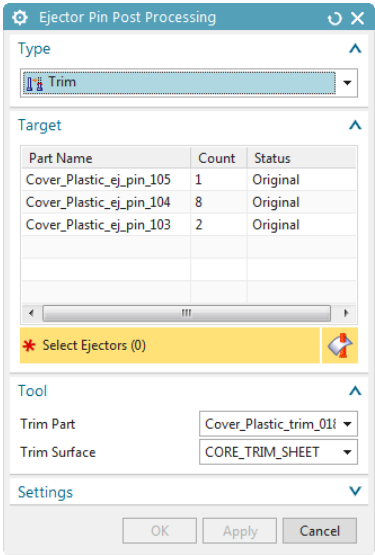

Figure 16-124 The *Ejector Pin Post Processing* dialog box
1. Choose the **Ejector Pin Post Processing** tool from the **Main** gallery of the **Mold Wizard** tab; the **Ejector Pin Post Processing** dialog box is displayed, refer to Figure 16-124.